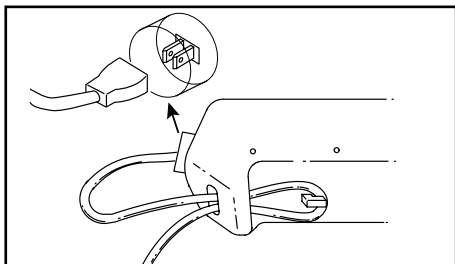

Fig. 9
1. Use the cord hook when you connect the extension cord to the power cord to prevent disconnection (Fig. 9). Use only an outdoor-approved extension cord as specified in the **SAFETY WARNINGS** section.